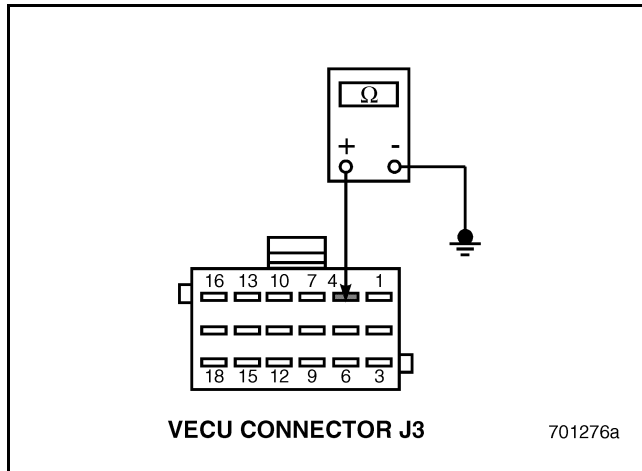

Figure 548
4. Check for continuity between VECU connector J3 pin 4 and a good ground (see Figure 548).